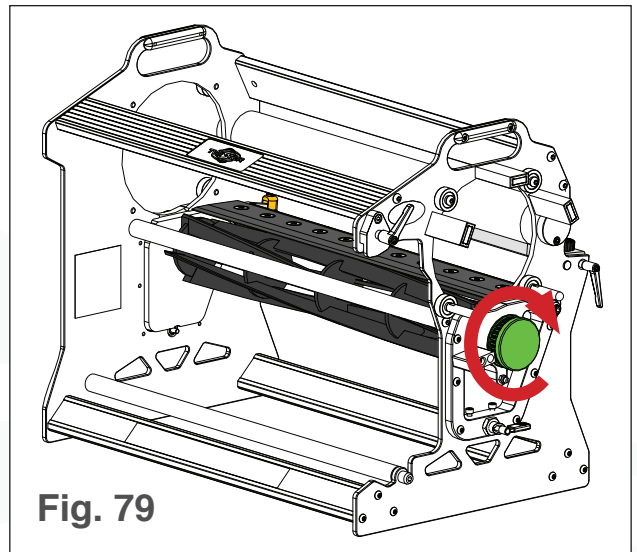

Fig. 79
9. Once the blade and bed knife are parallel with a paper-thick gap, rotate the blade pulley to spin the blade (see Fig. 79). There should be no resistance between the blade and the bed knife.